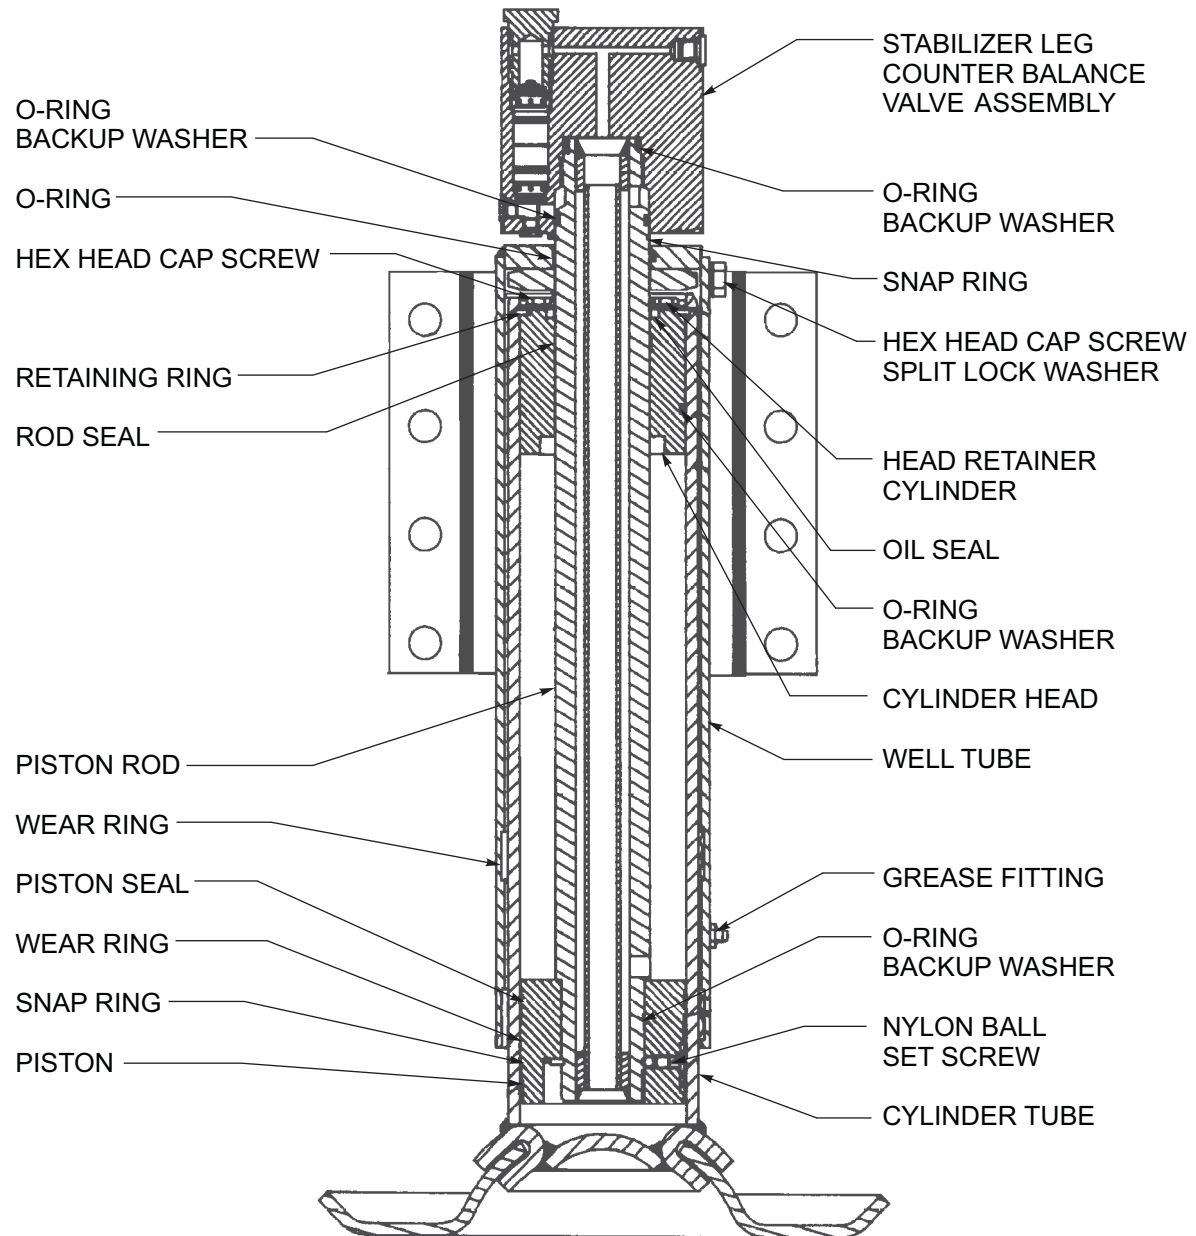

Figure 4-24: Dock Leveler Leg Assembly
2. Remove the lock valve from the leg by screwing counter clockwise (**See Figure 4-24.**) If you need only to repair the lock valve, it may be removed from leg while still on trailer if you have a minimum of 2" clearance above.